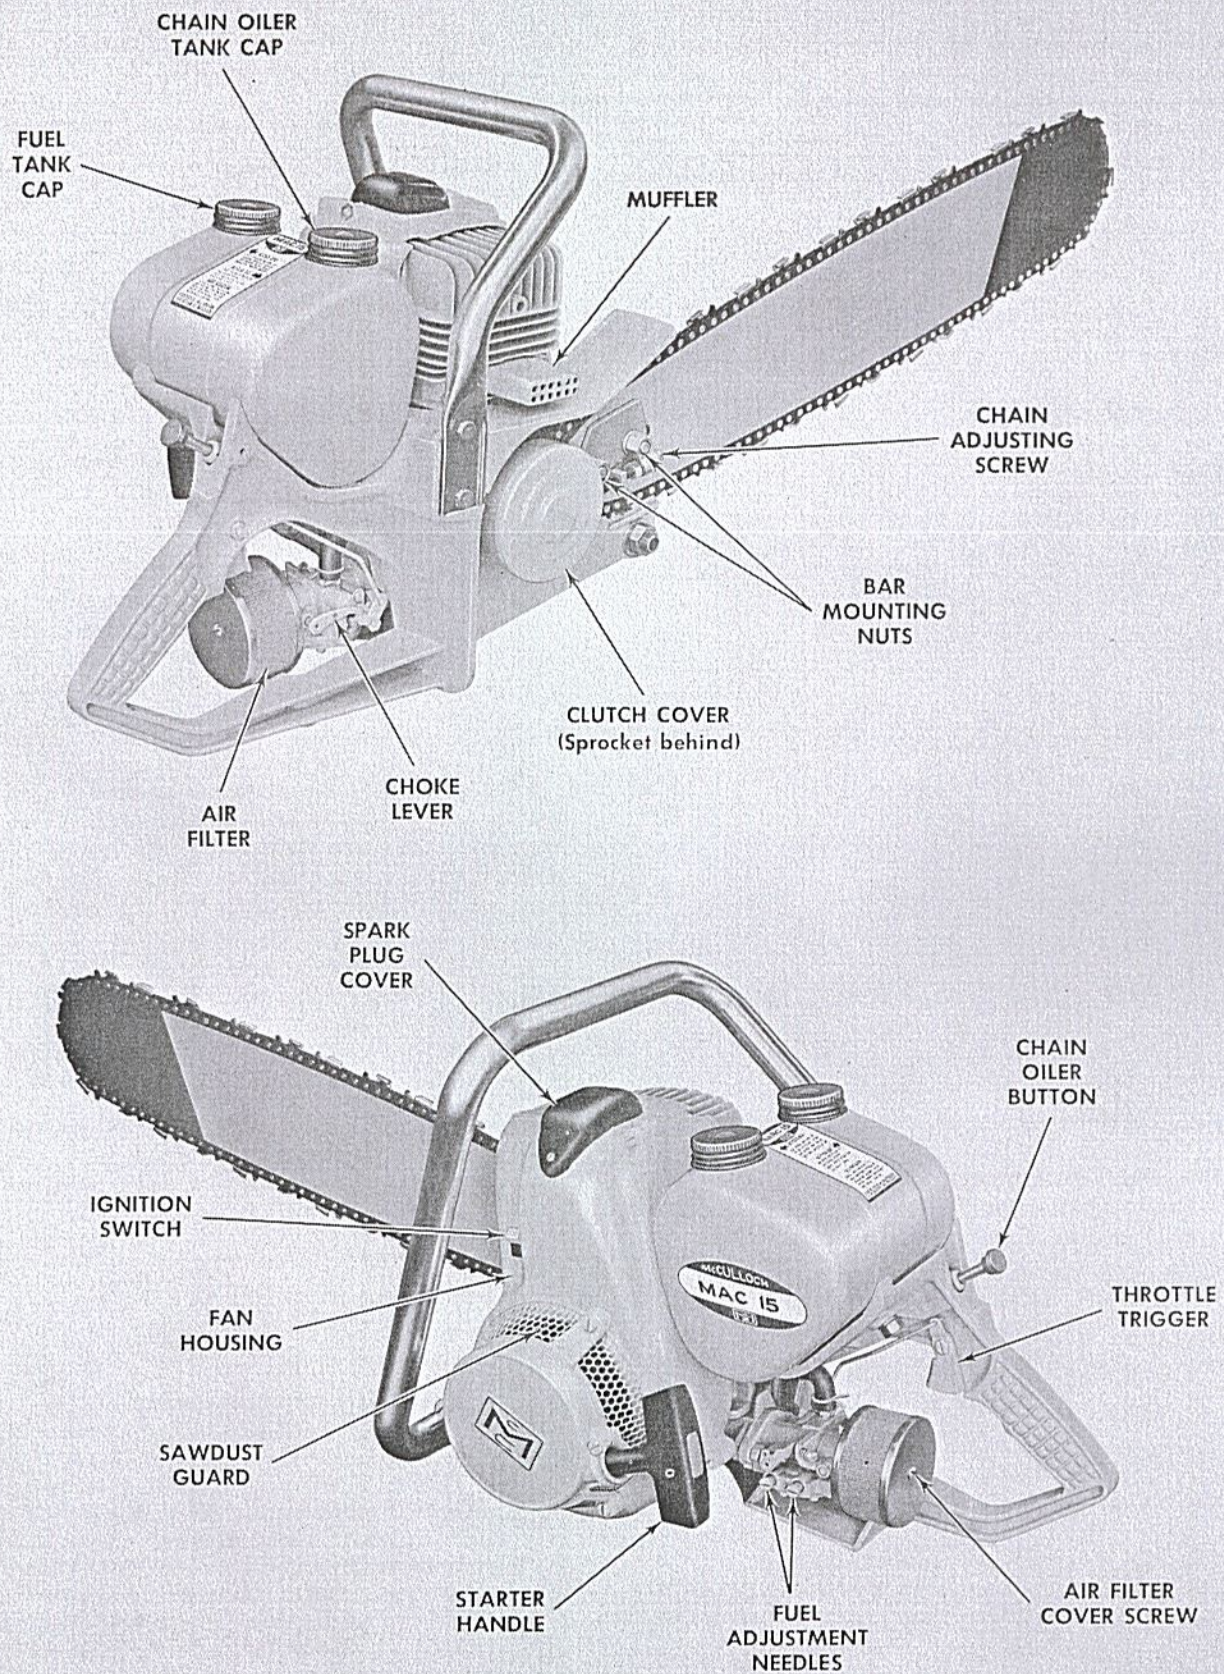

FIGURE 1
1. See Figure 1 for location of controls. Fill the fuel tank of your chain saw with the correct fuel mixture.